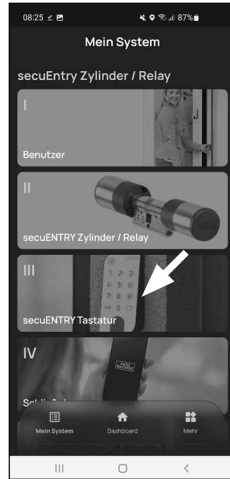

Fig. 1
① Tap on the second menu item "III - secuENTRY keypad (Fig. 1). The app displays a list of the keypads that have already been registered.